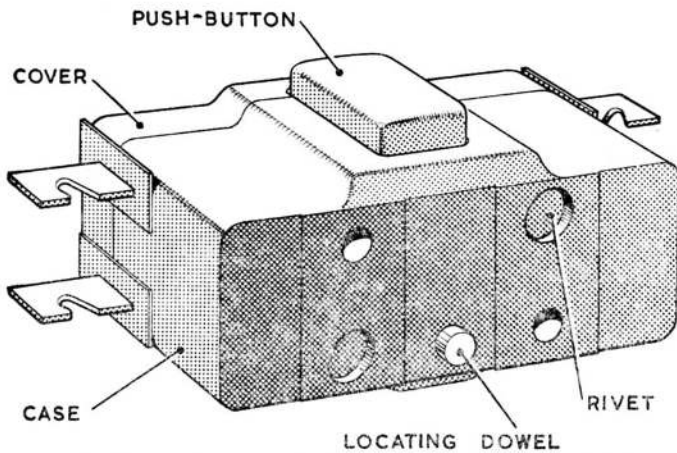
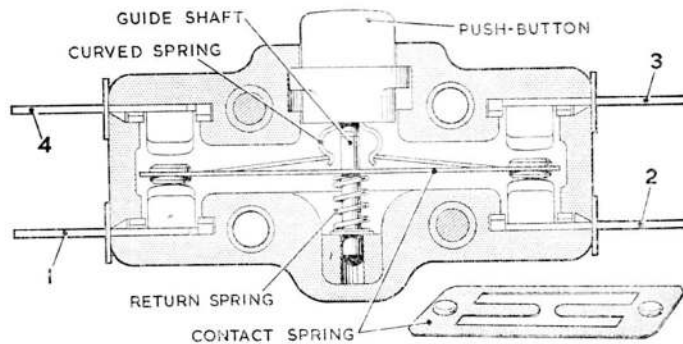

Fig. 1. Miniature switch, B.T.H. Type LHE.II-AI/I
Fig. 2. Section of miniature switch with detail of contact spring
2. The operating mechanism of the switch is housed in a moulded Bakelite case (fig. 1) and held in position by a Bakelite cover secured to the main case by two rivets. The four fixed contacts (1, 2, 3 and 4 fig. 2) are welded directly to metal strips which project through slots in the ends of case and act as the terminals. The contact spring with a contact fixed at each end is the connecting link between the contacts (1) and (2) in the free position, as shown in fig. 2, or between contacts (3) and (4) when the switch is tripped by pressing the push-button.
point, that is when they pass below the level of the two main strips of the contact spring. On releasing the push-button the return spring will return the mechanism to the free position shown in fig. 2.
6. The switches are secured on installation by screws passing through two holes 0.094 in. diameter. The mounting face of the switches has a small projecting locating dowel (fig. 1) which should engage with a hole when installed correctly. On the other face of the switch, directly opposite to the dowel, there is a small recess which is designed to locate the dowel of similar switches if it is required to assemble more than one switch on the same securing screws.